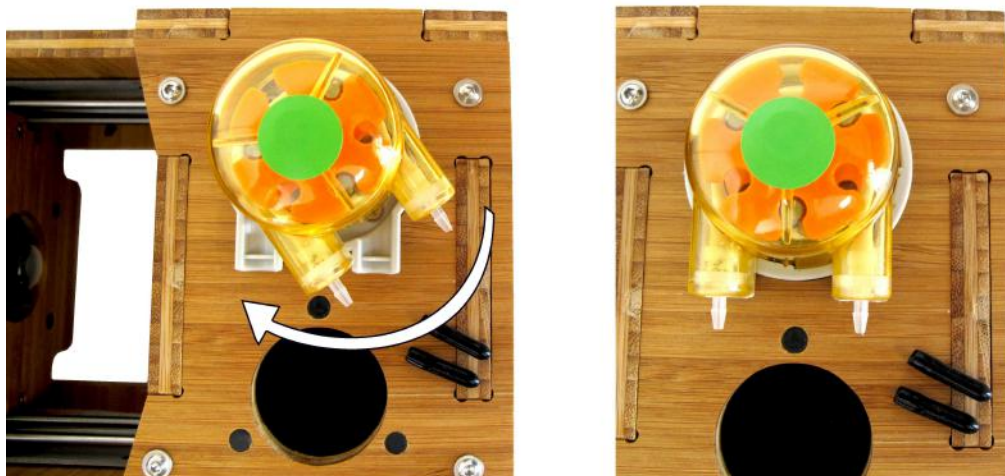

Figure 3: How to install the pump
3. To install it again, place it in the position shown in the image below until it clips, push it in and turn it clockwise until it snaps into the white socket (Fig.3).